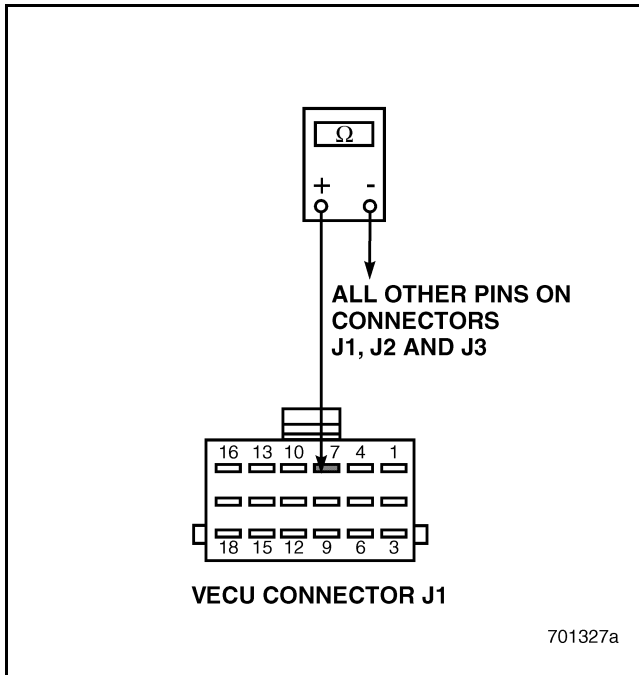

Figure 703
3. Check for continuity between VECU connector J1 pin 7 and all other pins on VECU connectors J1, J2 and J3 (see Figure 703).